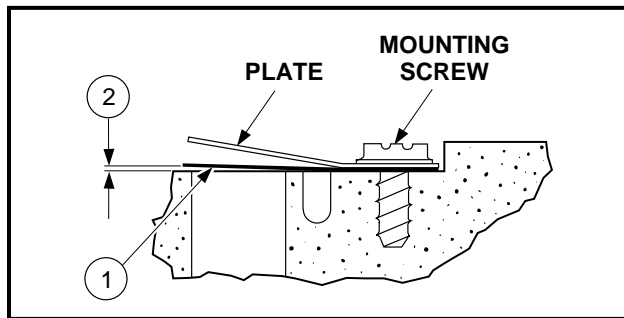

Figure 13-41 Reed Valve
1. Inspect the reed valve (1) for sticking or binding. Replace if necessary (**Figure 13-41, Page 13-22**).
3. Inspect the reed valve (1) seating surface. It must not have any nicks or burrs.
- PLACE THE REED VALVE ON THE SEAT SO THERE IS A SLIGHT GAP (2) 0.008 INCH MAXIMUM (0.203 MM) BETWEEN THE VALVE AND THE SEAT (**FIGURE 13-41, PAGE 13-22**).